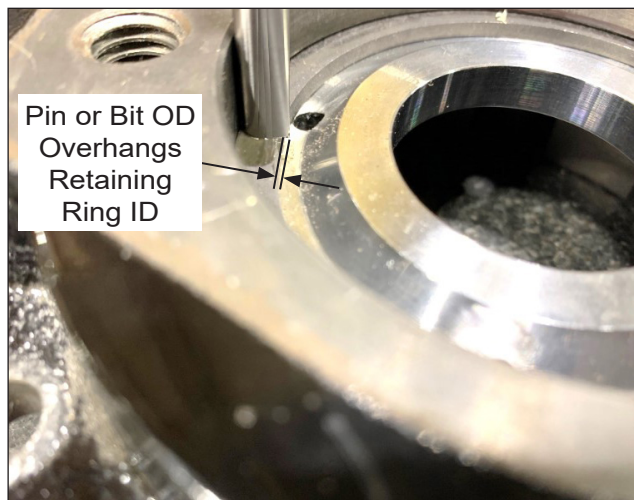

Figure 5 – Conforming Retaining Ring
- If the OD of the dowel pin or drill bit overhangs the ID of the retaining ring, the retaining ring is fully seated (refer to Figure 5). This indicates the gearbox is conforming according to the design specifications.